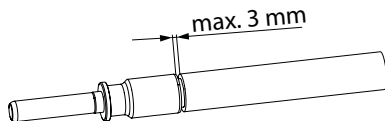

Fig. 5:
2. When doing so, ensure that the gap between insulation and contact is not more than 3 mm (*Fig. 5*).